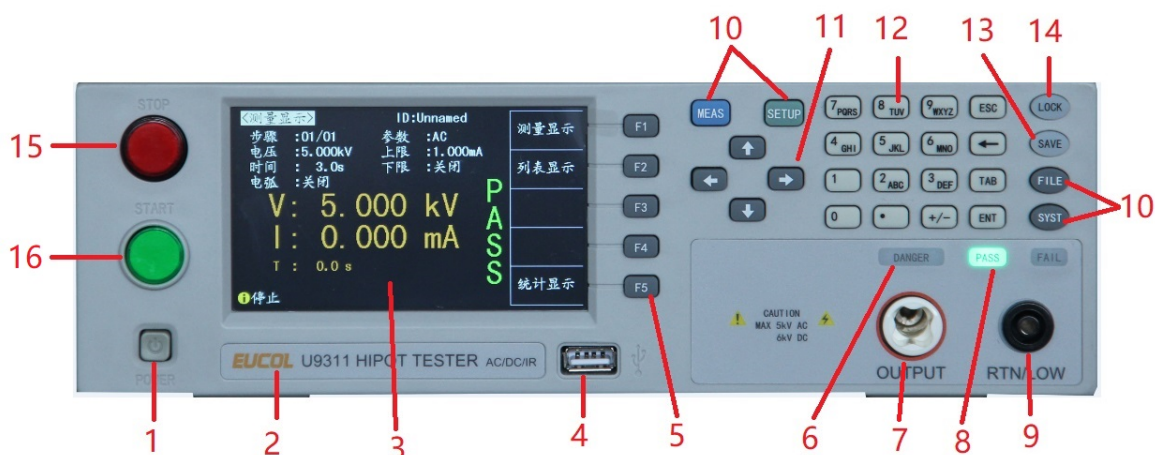

Figure 3-1
- Use [MEAS], [SETUP] or [SYST] or soft keys to enter into the page required to enter. (Refer to figure 3-1)